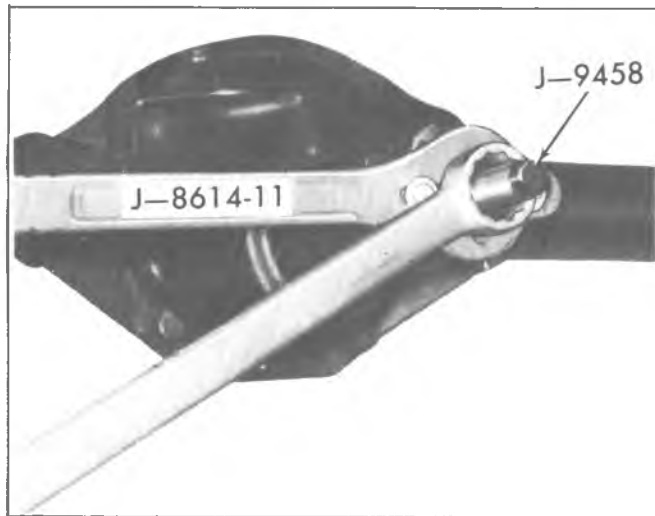

Fig. 25C--Installing Companion Flange
6. Install Companion Flange Using Holder J-8614-11 and Installer J-5780. See figure 25C.